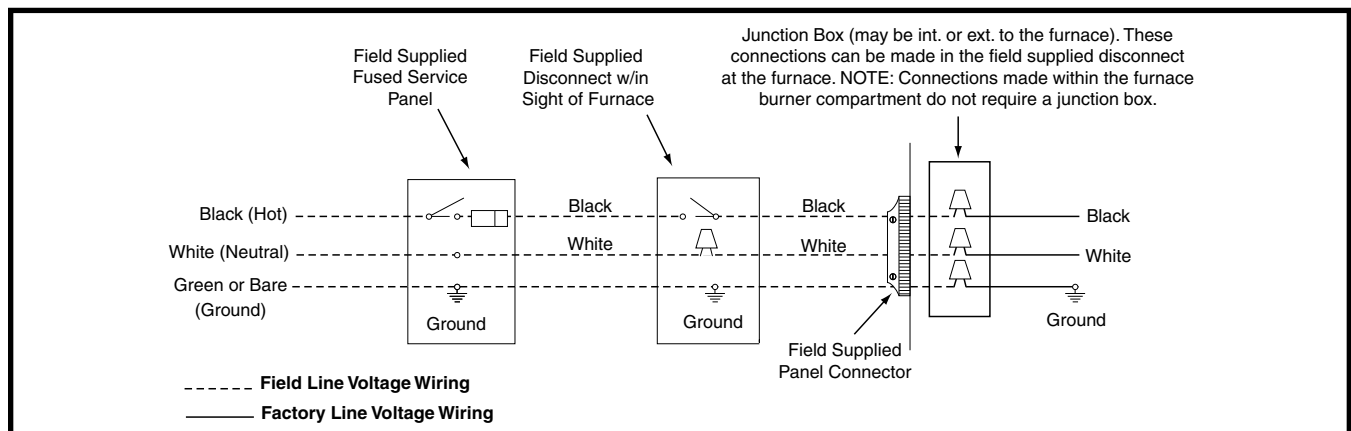
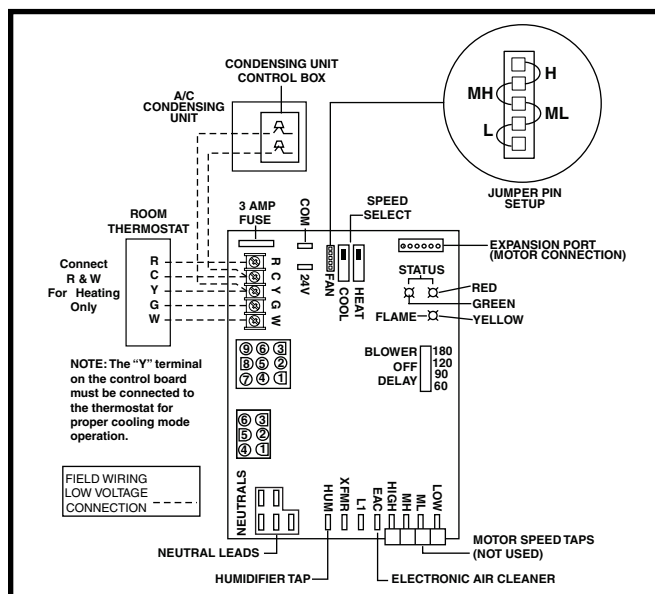

Figure 14. Line Voltage Field Wiring
Figure 15. Low Voltage Field, Four-wire Heating/Cooling Applications
- An electrical disconnect must be installed readily accessible from and located within sight of the furnace. See Figure 14 or the wiring diagram label inside of the control door. Any other wiring methods must be acceptable to authority having jurisdiction.
- Proper line voltage polarity must be maintained in order for the control system to operate correctly. Verify the incoming neutral line is connected to the white wire and the incoming “hot” line is connected to the black wire. The furnace will not operate unless the polarity and ground are properly connected as shown in Figure 14.
- The thermostat must be installed according to the instructions supplied by the thermostat manufacturer. Low voltage connections (24 VAC) from the thermostat are wired to the terminal strip on the integrated control in the furnace. Figure 15 contains the proper connections for heating only (two-wire) and heating/cooling (four-wire) applications. Recommended minimum wire gauge for thermostat wiring is shown in Table 2, \(page 20\).
- The six pin terminal marked "Expansion Port" (Figure 15) is not used in the single stage furnace as shipped from the factory. It is used for the furnace control board to communicate to a fixed speed or variable speed high efficiency motor that may be optionally installed. Please contact your distributor for the proper upgrade motor kit.
- ✓ Verify the jumper setting (for fan speed) on the control board. See Figure 15, \(page 21\).
The operating sequences for the heating, cooling, and fan modes are described below. Refer to the field and furnace wiring diagrams: Figure 14, \(page 20\), Figure 15, \(page 21\) and Figure 19, \(page 30\).
- When the thermostat energizes the **G** terminal for continuous fan (without calling for heat or cooling), the indoor fan is energized on the selected FAN speed. See Figure 15, \(page 21\).